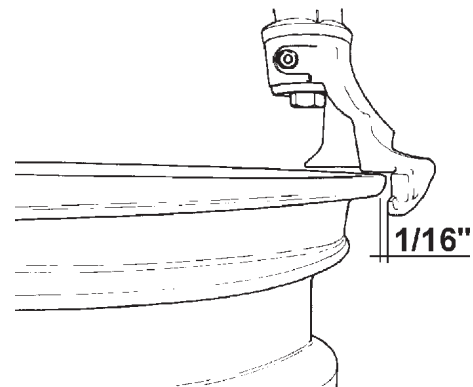

Fig. 4.1-4
E. Gently position the mount/demount head in contact with rim edge, now manually push the lock lever up and lock it into place. The mount/demount head automatically moves vertically up and away from the rim edge. Turn the swing arm adjustment knob clockwise until the mount/demount head moves horizontally away from the rim flange by approximately 1/16" (2mm): this is necessary to avoid any rim contact during the changing process. (Fig. 4.1-4).